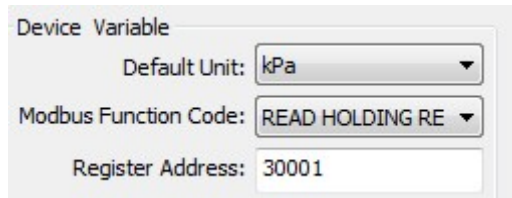

Figure 5.65 Register address selection
1. Select "Detailed Design"->"Sensor"-> drop-down box corresponding to"Register address", as shown in Figure 5.65